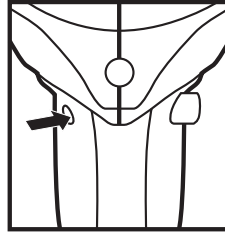
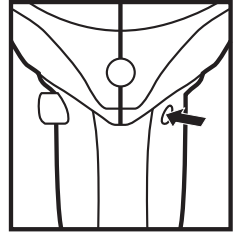

Fig. E1
Fig. E2
4. FORWARD, REVERSE ROTATION AND LOCK CONTROL(See Fig. E1, E2)
Your tool is equipped with a forward, reverse rotation and lock control (4) located above the on/off switch (6). It was designed for changing rotation of the chuck and for locking the on/off switch (6) in the center position to help prevent accidental start and accidental battery discharge. The screwdriver has forward/reverse function, press the forward/reverse rotating control to the right (See Fig. E1), it is forward function, then press the forward/reverse rotating control to the left (See Fig. E2), it is reverse function.